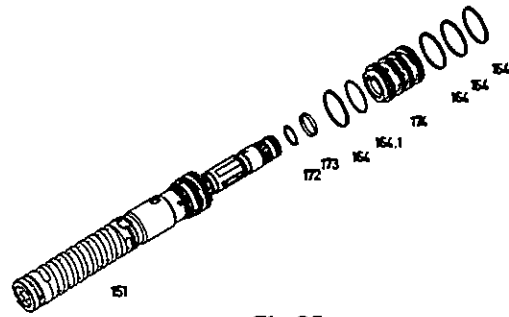

Fig.25
Slip O-ring (164.1) and sealing rings (164) onto control sleeve (174) with tool [11] (*Fig.25*).